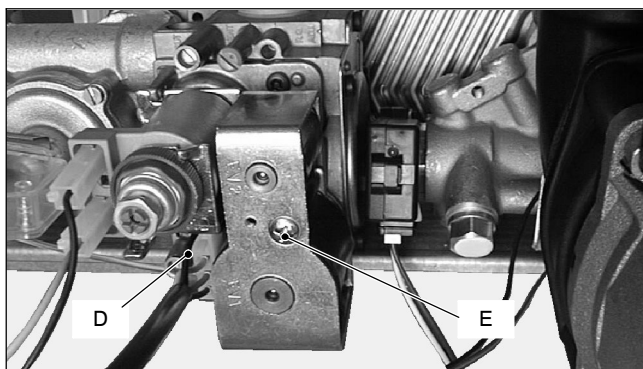

Fig. 4
- 2 Disconnect the connector *D* (Fig. 4).